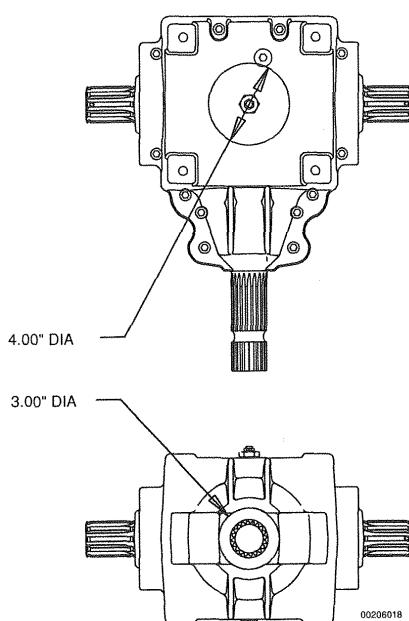

Figure 37. Acceptable Oil Leakage
1. **Oil covers less than a 3-inch diameter area around the shaft seal area (see Figure 37).**
2. **Oil covers 4 inches around the vent or drain plugs (see Figure 37).**